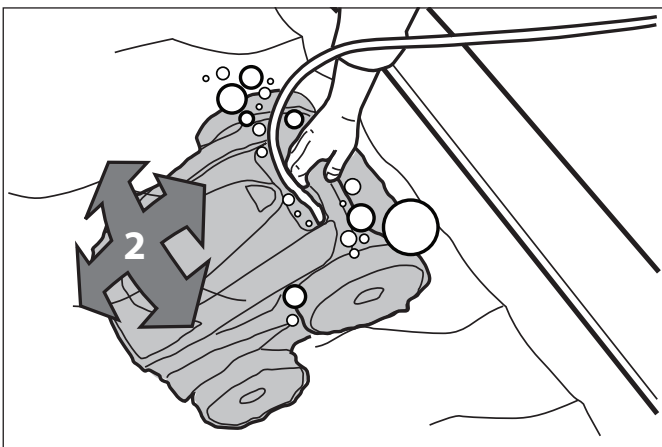

Figure 5. Cleaner Sinking to the Bottom of the Pool
2. Ensure the unit sinks to the bottom of the pool and does not float (Figure 5).